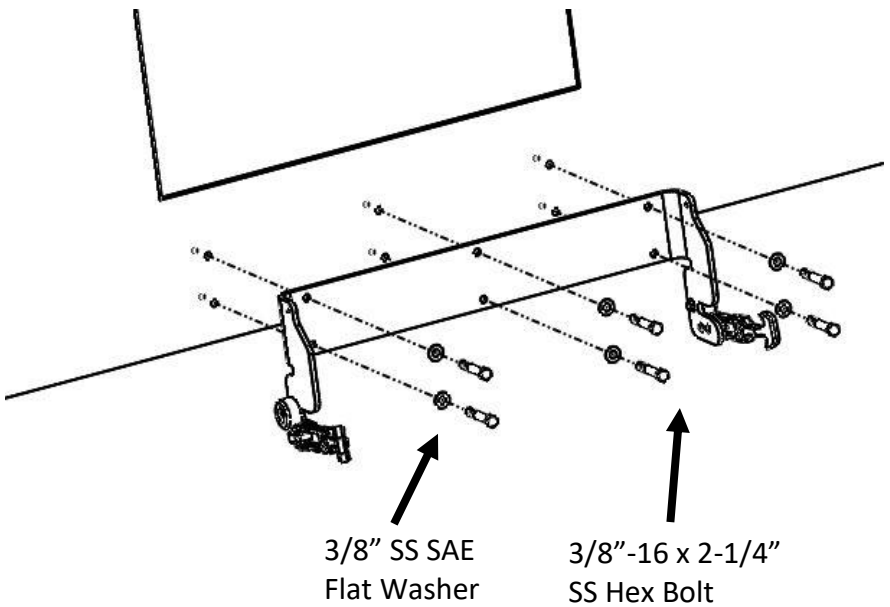

Figure 2B.1.
- Place a **3/8"-16 x 2-1/2" SS Hex Bolt** with one **3/8" SS SAE Flat Washer** through the top middle hole of the step mounting bracket and through the top middle hole in the camper as seen in *Figure 2B.1*.
- Secure the **3/8"-16 x 1-1/2" SS Hex Bolt** with one **3/8" Fender Washer**, one **3/8" SS Lock Washer** and one **3/8"-16 SS Hex Nut** as seen in *Figure 2B.2*.